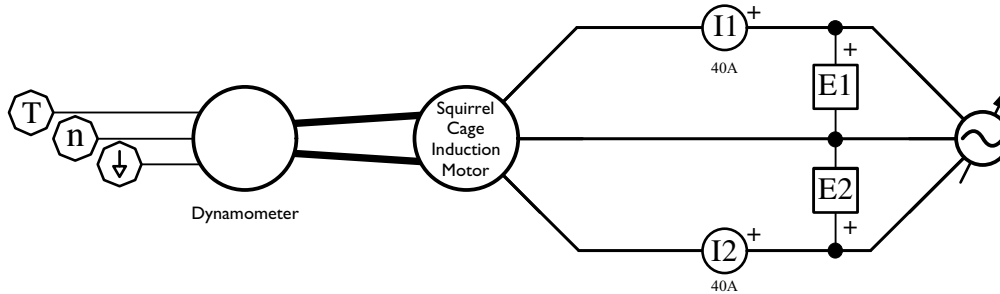

Figure 4.14: Three-Phase Squirrel Cage Induction Motor Circuit
- 6. Connect the squirrel cage motor to the variable ac power supply as shown in Figure 4.14. Use the high current (40 A) connection for the Ammeter. Connect the motor to the dynamometer with the timing belt, and connect the data cables for torque and speed to the the DAI.